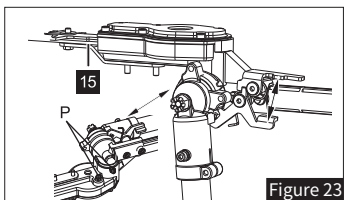

Figure 23
- Release the tilt lock mechanism (see Figure 23).